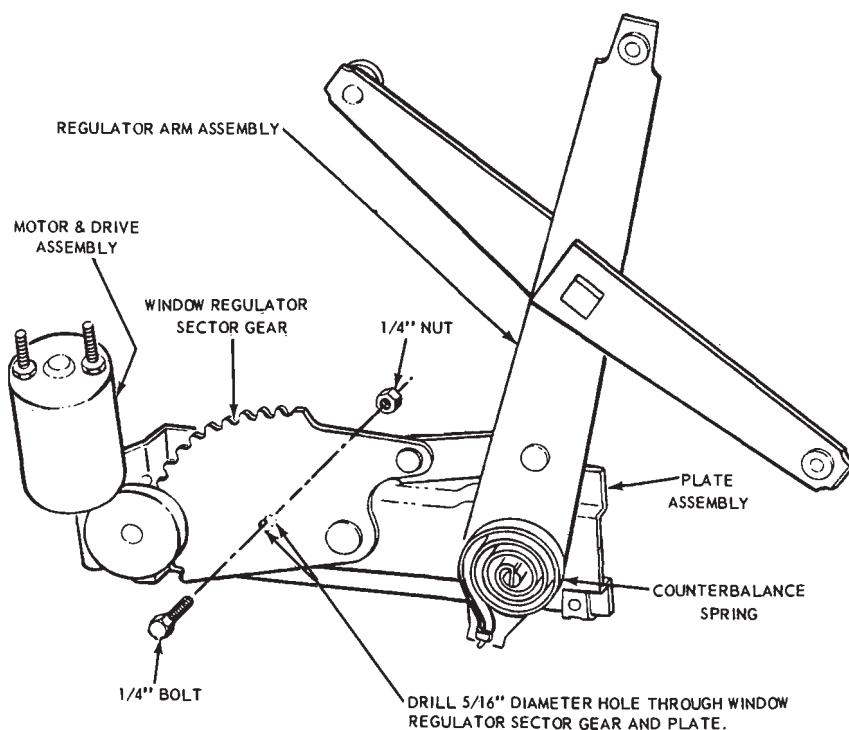

FIG. 1—Motor and Drive Assembly Removal Precaution
dows, mount the regulator assembly in a vise. Drill a 5/16 inch hole through the regulator sector gear and the regulator plate (Fig. 1). Install a 1/4 inch bolt and nut in the hole to prevent the sector gear from moving when the motor and drive assembly is removed. Remove the motor assembly from the regulator.
13. If equipped with electric windows, mount the regulator assembly in a vise. Drill a 5/16 inch hole through the regulator sector gear and the regulator plate (Fig. 1). Install a 1/4 inch bolt and nut in the hole to prevent the sector gear from moving when the motor and drive assembly is removed. Remove the motor assembly from the regulator.